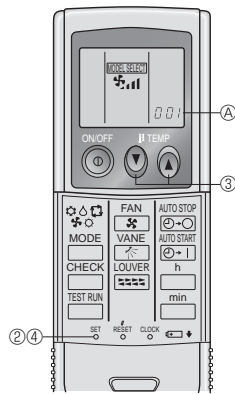

Fig. 6-3
2) Setting (Fig. 6-3)
- ① Insert batteries.
- ② Press the SET button with something sharp at the end. **MODEL SELECT** blinks and Model No. is lighted.
- ③ Press the temp \uparrow \downarrow buttons to set the Model No.